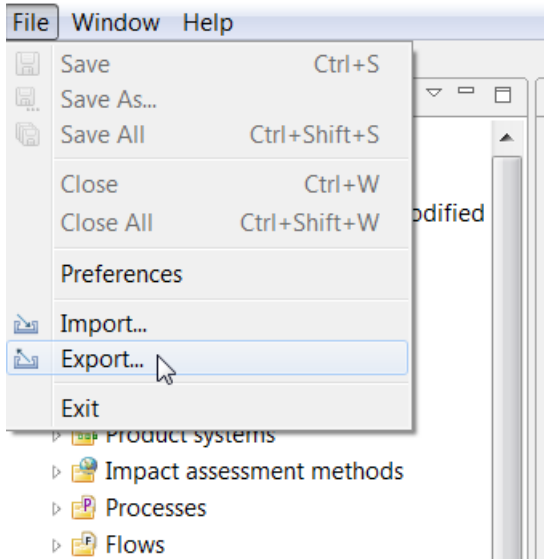

Figure 19: Exporting as EcoSpold1 and EcoSpold2, step 1
- To export processes as excel files begin by activating the database from which data should be exported. Then select "File" --> "Export" as illustrated in Figure 19. The export wizard will pop up. Select "Processes" in the Excel folder and click "Next". Then select the location where the data should be saved as well as the processes to be saved and click "Finish". Each process will be saved as an individual excel file.